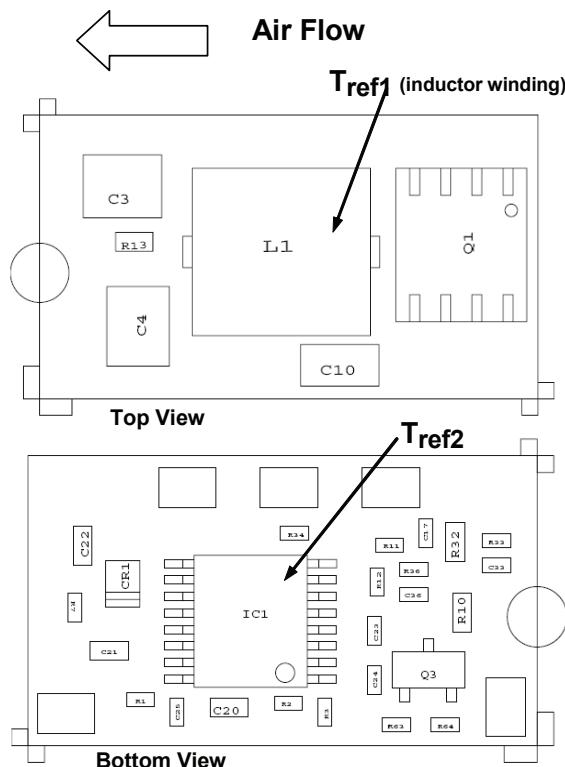
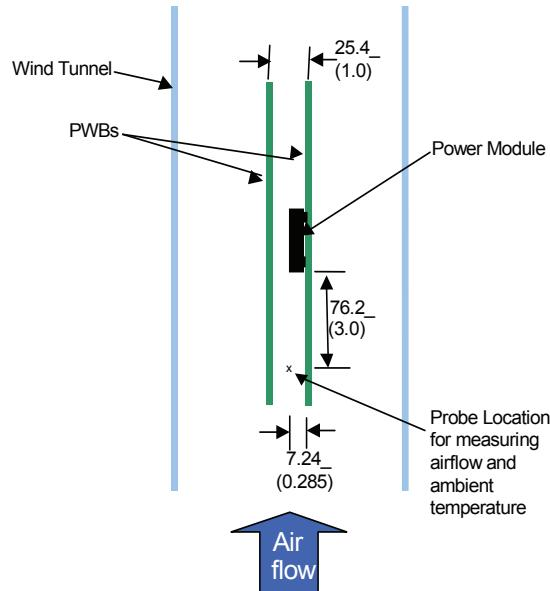

Figure 31. Tref Temperature measurement location.
Figure 32. Thermal Test Set-up.
To provide over temperature protection in a fault condition, the unit relies upon the thermal protection feature of the controller IC. The unit will shutdown if the thermal reference point T_{ref2}, (see Figure 31) exceeds 140°C (typical), but the thermal shutdown is not intended as a guarantee that the unit will survive temperatures beyond its rating. The module will automatically restart after it cools down.
Considerations include ambient temperature, airflow, module power dissipation, and the need for increased reliability. A reduction in the operating temperature of the module will result in an increase in reliability. The thermal data presented here is based on physical measurements taken in a wind tunnel. The test set-up is shown in Figure 32. Note that the airflow is parallel to the long axis of the module as shown in figure 31. The derating data applies to airflow in either direction of the module's long axis.
The thermal reference points, T_{ref1} and T_{ref2} used in the specifications of thermal derating curves are shown in Figure 31. For reliable operation these temperatures should not exceed 125°C.